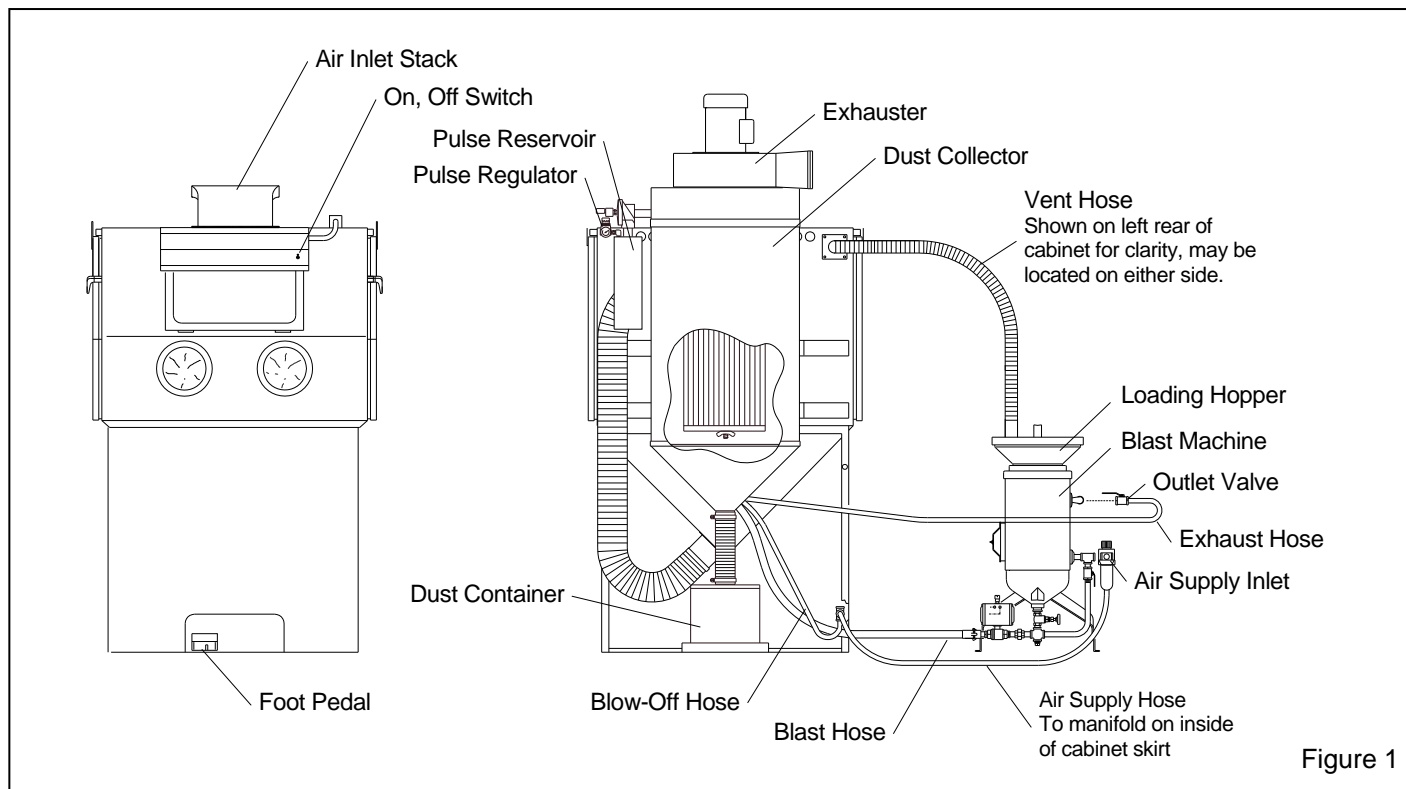

Figure 1
Refer to Figure 1 for the general arrangement and callouts of the major parts, and to Figure 2 for identification of blast machine parts.
2.1.1 Refer to Figures 1 and 2 for the cabinet and blast machine components and Figure 13 for the controls and plumbing schematic. Select a location where compressed air and electrical service are available. The location of the cabinet and accessories must comply with OSHA and local safety codes. Allow for full access to all doors and service areas, and for efficient handling of parts. Provide enough clearance around the dust collector to empty the waste container. Determine the best location, and position all units before final assembly.